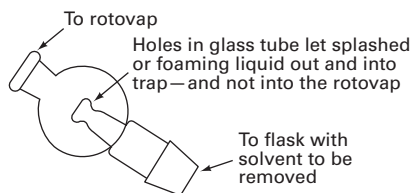

FIGURE 21.2 A rotovap splash guard.
8. **Rotovap splash trap** (Fig. 21.2). If your solution bumps or foams, you can contaminate the condenser with whatever was dissolved in the solvent. Hence the trap.